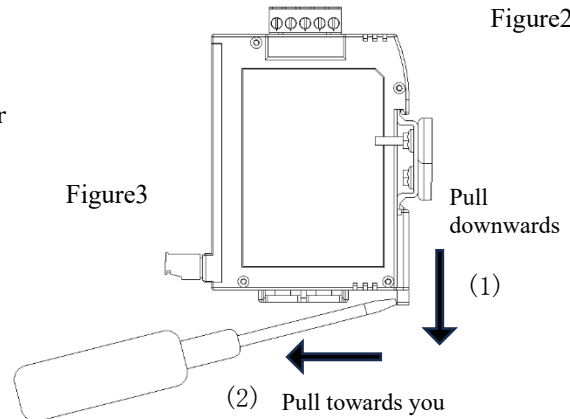

Figure3
- (1) As shown in Figure 3, insert a flathead screwdriver into the slider groove and pull it downward.
- (2) While holding it in that position, pull the bottom of the thin power meter toward you to remove it.